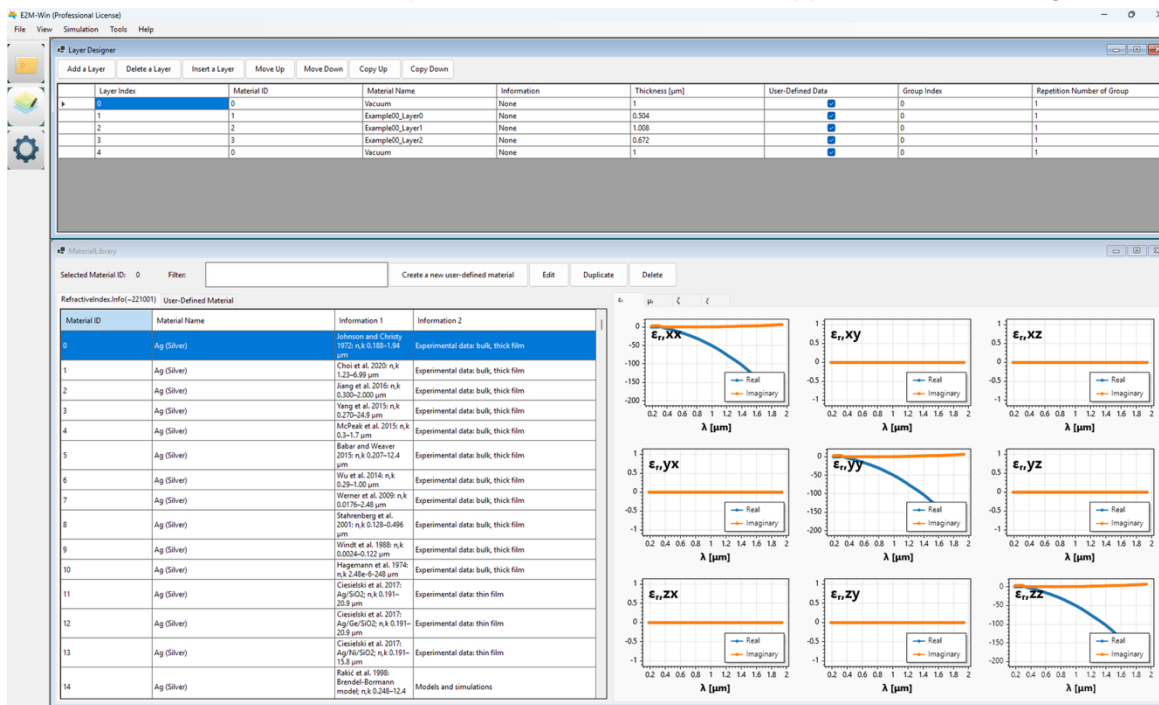

Figure 3. Main interface structure of E2M-Win
2. Wait for the initialization to complete. The main interface will appear as shown in Figure 3.